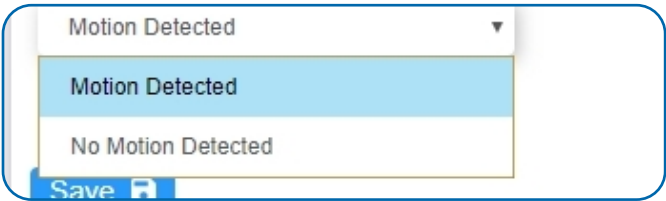

Figure 19
- Next, you will be asked to input the trigger settings. You have the option of setting this trigger to detect “motion” or “no motion.” See Figure 19.